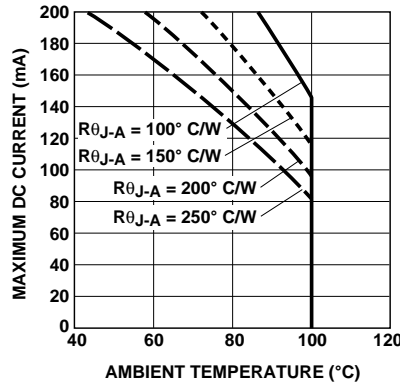

Figure 3b. HPWS-xx00 Maximum Pulsed Forward Current vs. Ambient Temperature.
4. Derate linearly as shown in Figure 3b.